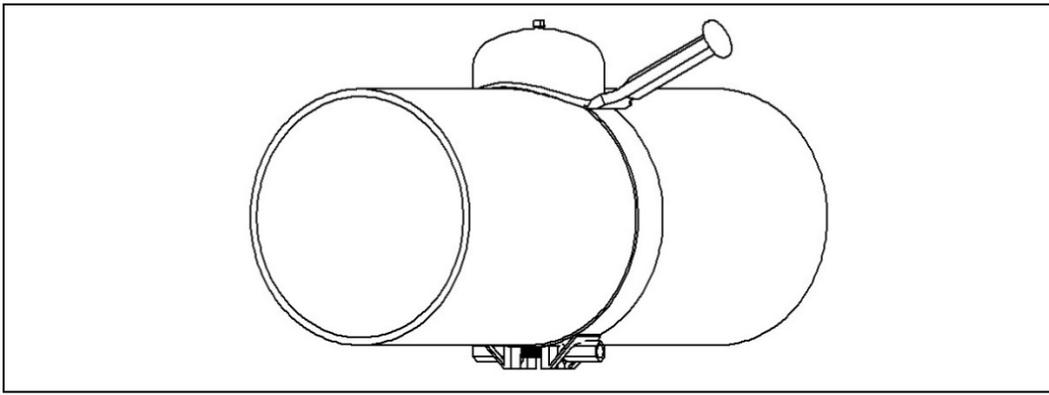

Figure 5
8. Notch and break the draw band near the weld using a chisel or cut off with a grinder as shown in Figure 5.